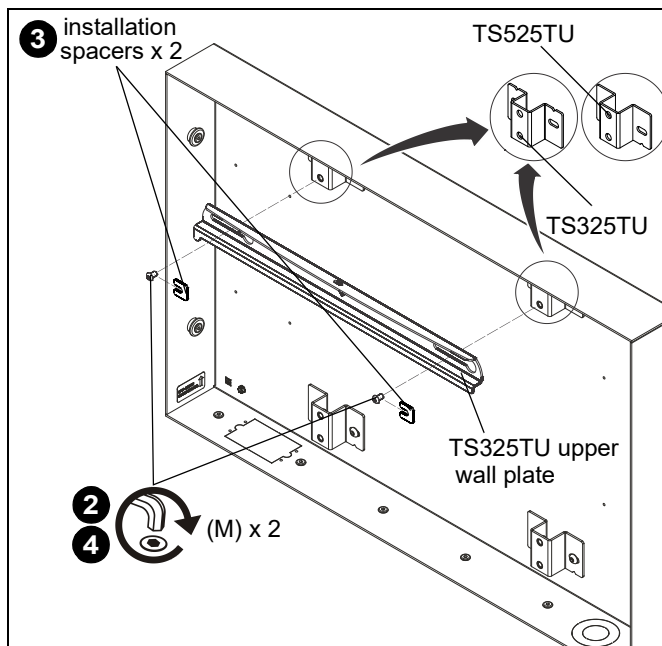
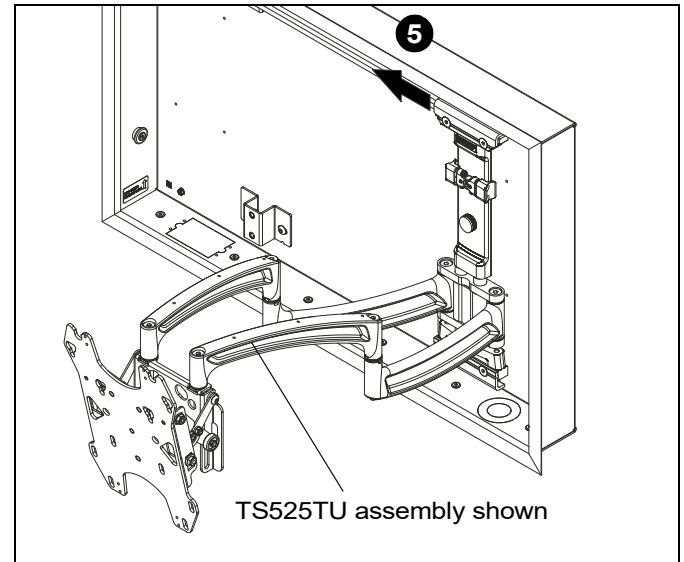

Figure 9
Figure 10
2. Use two 5/16-18 x 1/2" button head cap screws (M) to loosely attach upper wall plate of TS325TU/TS525TU to upper attachment brackets (N). (See Figure 9)
IMPORTANT ! : Install to upper bracket holes for TS525TU and lower bracket holes for TS325TU. See Insets on Figure 9.
3. Place two installation spacers (included with TS325TU/TS525TU) over two 5/16-18 x 1/2" button head cap screws (M). (See Figure 9)
4. Tighten two screws (M) to secure upper wall plate to upper attachment brackets.
5. Slide TS325TU/TS525TU assembly onto upper wall plate of TS325TU/TS525TU. (See Figure 10)